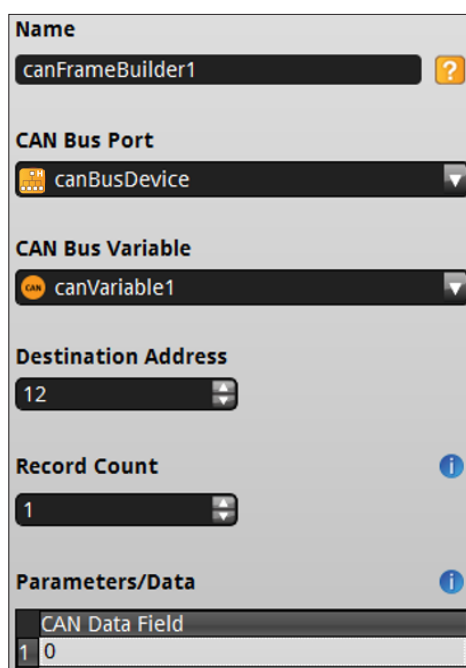

Figure 33. Values for canFrameBuilder1.
4. Add a new “canFrameBuilder1”. Link this to “canVariable1”. Set the Destination Address to 12. The CAN Data field should be 0 as this is the PGN to be requested. (see Figure 33).